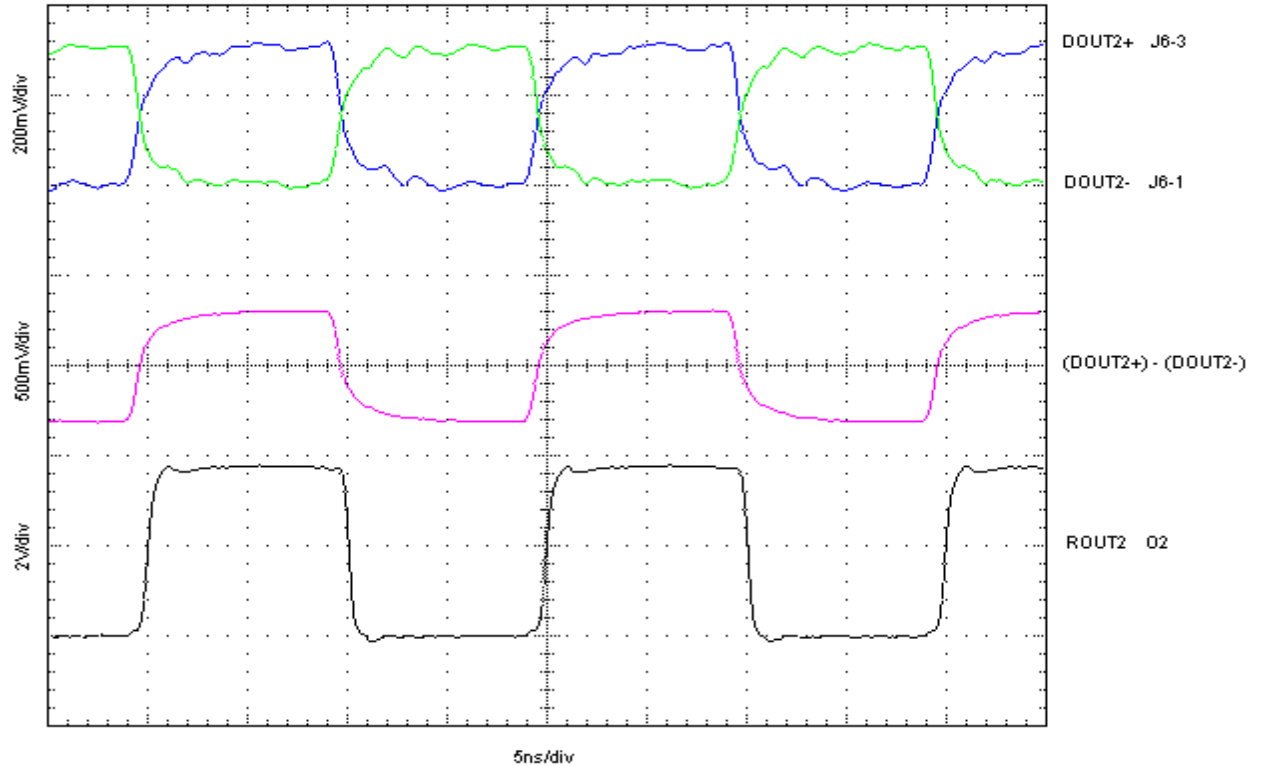

Figure 5: LVDS Channel #2 Waveforms — PCB Interconnect
The PCB interconnect signal (LVDS Channel #2) can be measured at the receiver inputs (test points J6-1 and J6-3). Due to the short interconnect path via the PCB little distortion to the waveform is caused by the interconnect. See *Figure 5*. Note that the data rate is 100 Mbps and the differential waveform ($V_{DIFF} = D_{OUT2+} - D_{OUT2-}$) shows fast transition times with little distortion.
In *Figure 5*, 6, 7 and 8, the top two waveforms are the single-ended outputs (between the driver and receiver), the middle waveform is the calculated differential output signal from the two single-ended signals and the bottom waveform is the output TTL signal from the receiver.
National's Interface Applications group employs a wide range of probes and oscilloscopes. One system that meets the requirements of LVDS particularly well is a TEK TDS 684B Digital Real Time scope (>1GHz bandwidth) and TEK P6247 differential probe heads. These probes offer 200k Ω , 1pF loading and a bandwidth of 1GHz. This test equipment was used to acquire the waveforms shown in *Figures 5, 6, 7, 8 and 9*.
- 6) View LVDS signals using the same voltage offset and volts/div settings on the scope with the TEK P6247 differential probes. View the output signal on a separate channel from test point O4. The signals that you will see should resemble *Figure 5*.